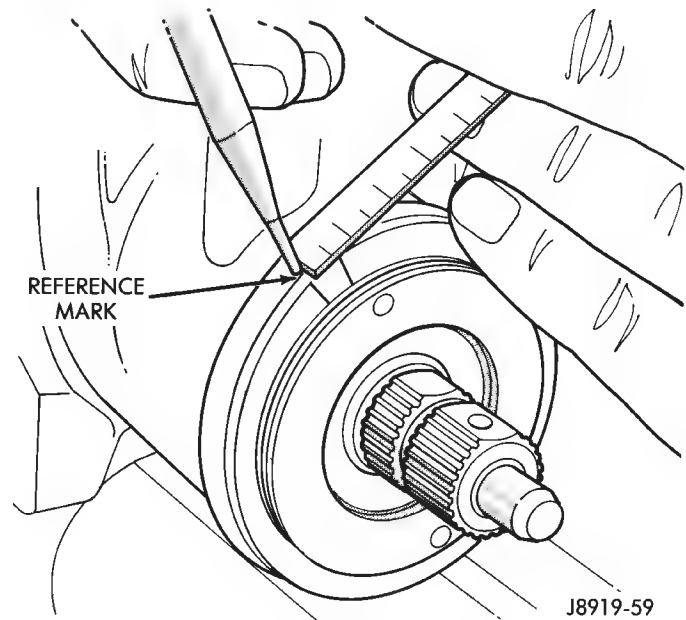

Fig. 10 Remarking The Housing
- (4) Measure back (counterclockwise) 13 mm (0.50 in) and mark housing (Fig. 10).